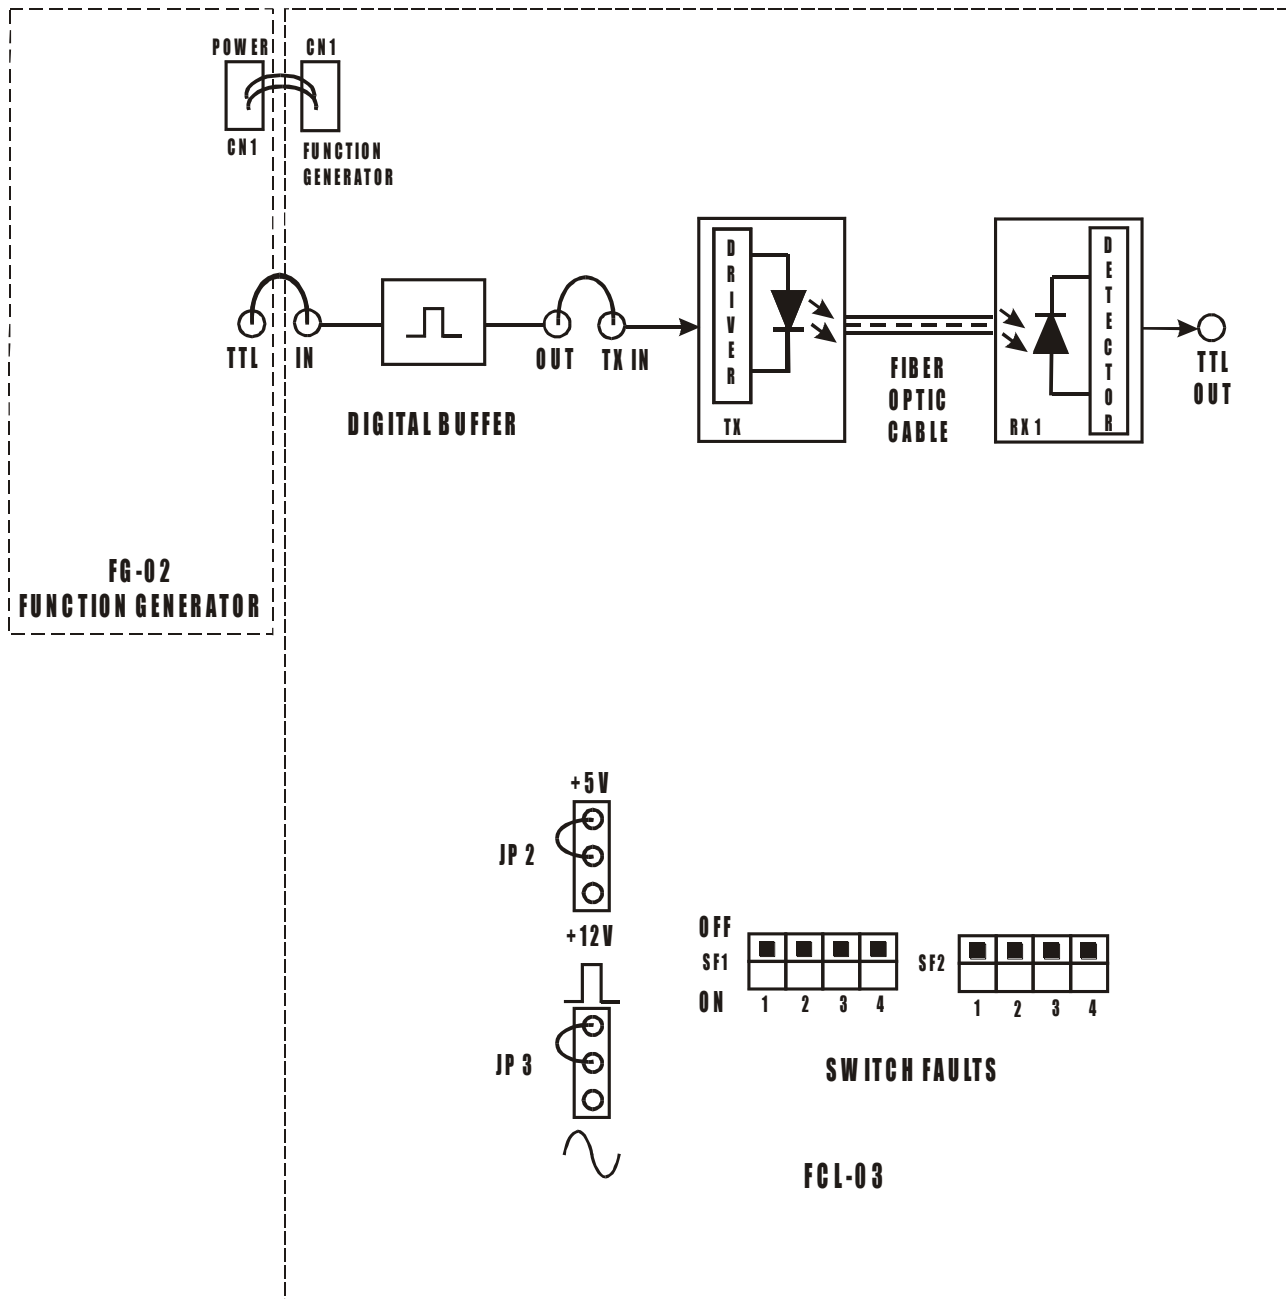

FIG. 2.1 BLOCK DIAGRAM FOR FIBER OPTIC DIGITAL LINK
- Make connections as shown in fig.2.1. Connect the power supply cables with proper polarity to FCL-03 Kit. While connecting this, ensure that the power supply is OFF.
- Keep the jumpers **JP2** & **JP3** on FCL-03 as shown in fig.2.1.